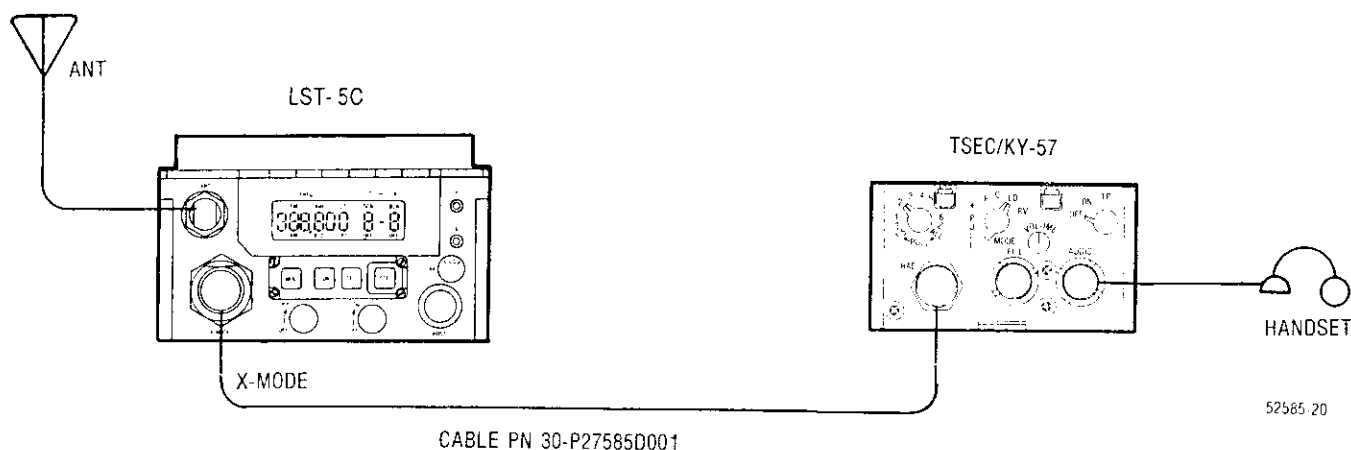

Figure 2-2. Encrypted LOS Operation – Block Diagram
6. Connect the TSEC/KY-57 security device and the H-189/GR as shown in Figure 2-2.
7. Connect a TSEC/KY-57 COMSEC device and the handset or data input device as shown in Figure 2-2.